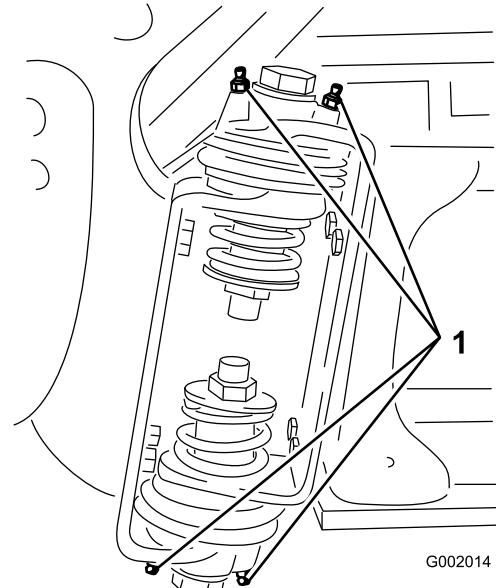

Figure 44
2. Pump grease into the bearing or bushing at each fitting Figure 44.